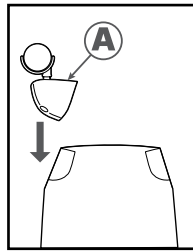
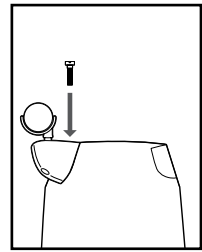

FIGURE 3
FIGURE 4
4. With tank inlet facing you, take the caster assembly marked with the letter **A** **(FIGURE 3)** and place in the slot on left side of the tank, also marked with the letter **A**. Secure with screw provided. **(FIGURE 4)**